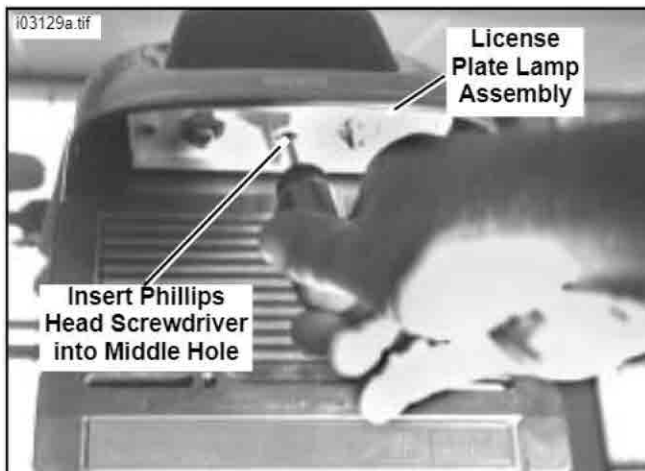

Figure 10. Removing the Tail/ Stop Lamp Assembly
9. See Figure 10. Insert a Phillips-head screwdriver into